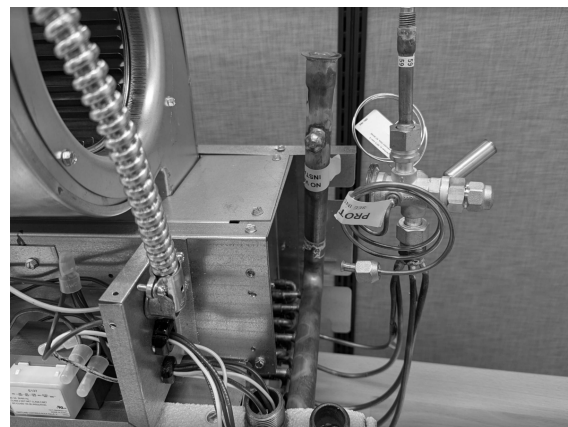

Figure 5 - Complete TXV Assemble
- 13) See Figure 5 for an example of a completed HX TXV assembly.